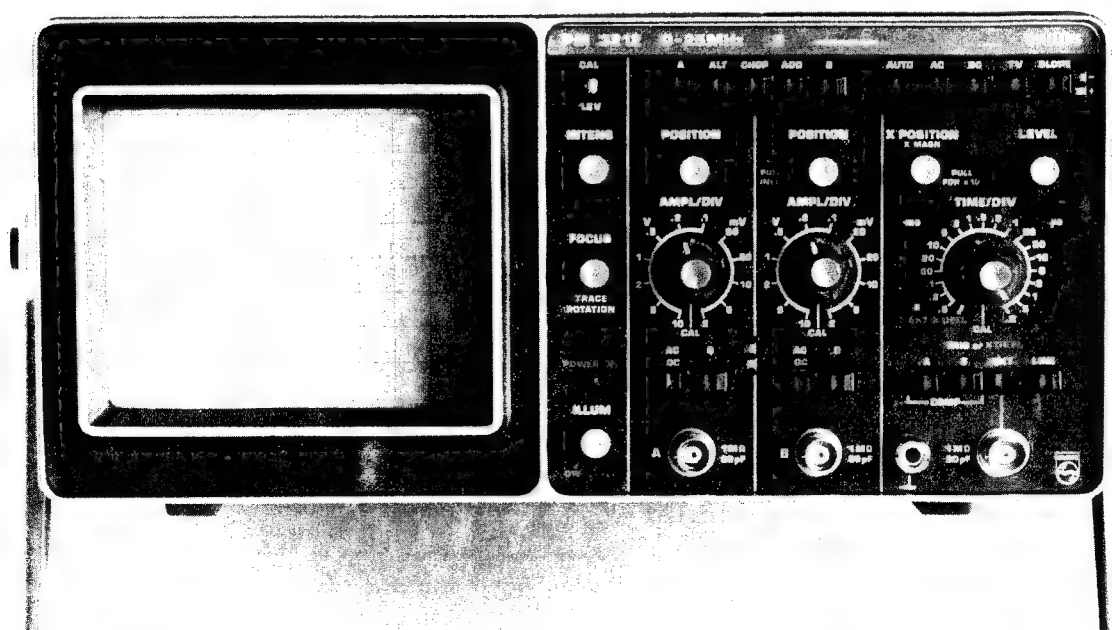

Fig. 2.2. Front view of the oscilloscope showing controls and sockets
2.2 CONTROLS AND SOCKETS (Refer to fig 2.2)
Refer to Fig. 2.2 for location of controls.